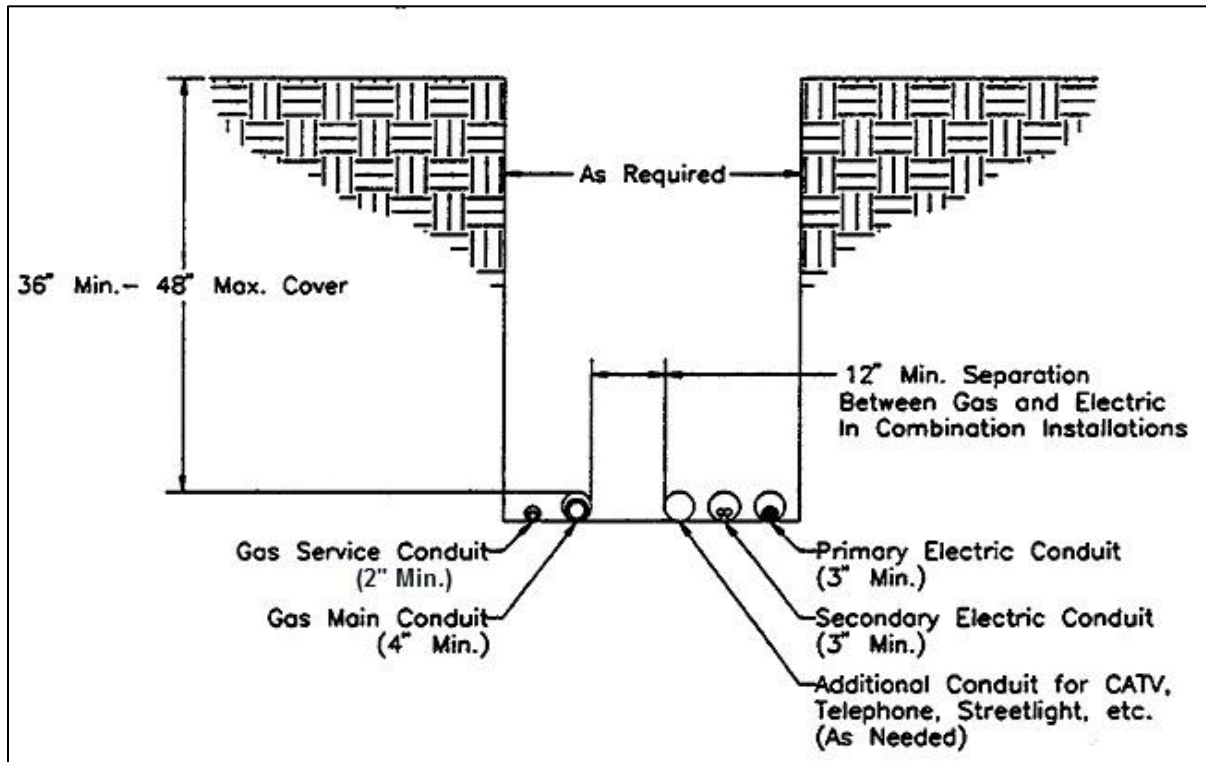

FIGURE 1
- e. Service line conduits shall terminate no closer than ten (10) feet from building foundations.
- f. A minimum of 36 inches and a maximum of 48 inches, or depth specified by Engineering, of cover shall be maintained above all conduits. In gas and electric combination installations, all conduits shall be installed horizontally in a joint trench with a 12 inch separation between electric and gas conduits (See Figure 1).